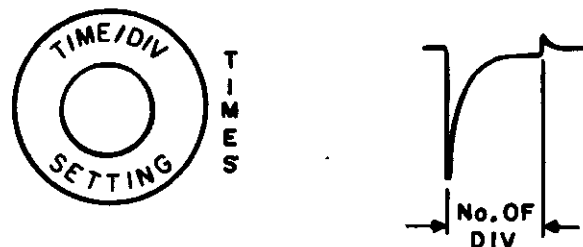

Figure 2-5. Elapsed Time Measurement
2. Multiply the horizontal dimension obtained in Step 1 by the TIME/DIV control setting to obtain the time interval. See Figure 2-5.